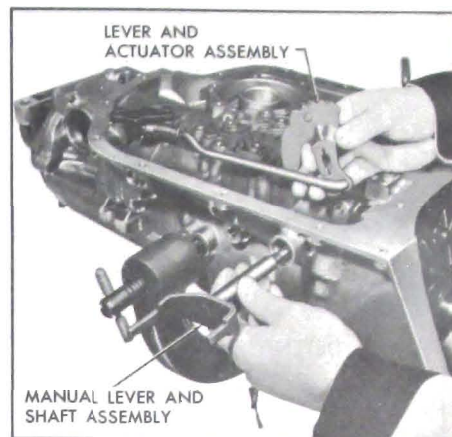

Figure 5-525
11. Remove the detent lever from the manual shaft. See Figure 5-525.